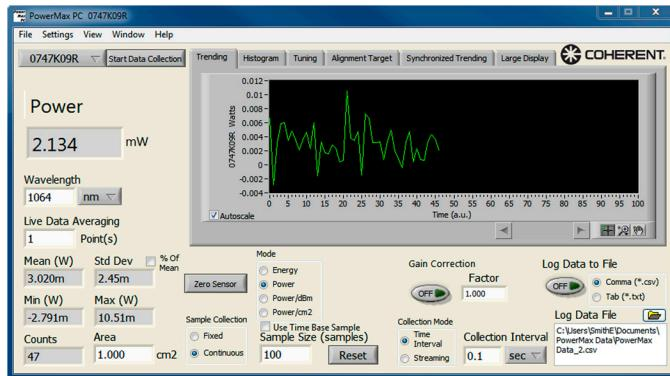

Figure 5-11. Monitor Power of the Output Fiber
- First, connect a power meter and sensor to monitor power of the output fiber, as shown in Figure 5-11. See “Appendix - OBIS Power Measurement” (p. 193) for recommended Coherent equipment.